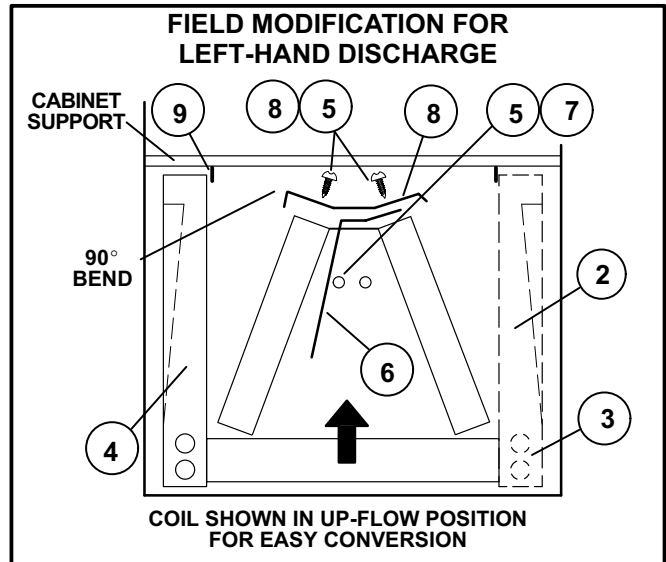

FIGURE 4
- 5 - Remove screws from top cap. Remove horizontal drip shield screw located in the center of the back coil end seal. See figure 4.
- 8 - Rotate top cap 180° front to back and align with unused screw holes. Holes must align with front and back coil end plates. Note that top cap has a 45° bend on one side and 90° bend on the other. **The 90° bend must be on the same side as the horizontal drain pan.** See figures 4 and 5.
- 9 - From the upflow position, flip cabinet 90° to the left and set into place. Replace coil assembly. Secure coil in place by bending down tab on cabinet support rail. See figures 4 and 6.